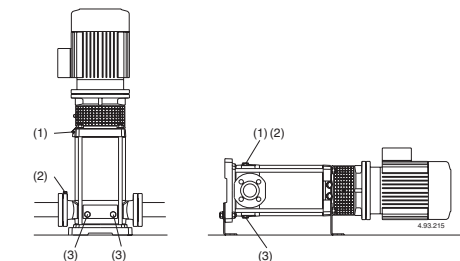

Fig.4d (1) Filling and air vent
(2) Suction side air vent
(3) Draining
When the liquid level on the suction side is above the pump (inflow under positive suction head, **fig. 3B**), fill the pump by slowly and completely opening the inflow gate valve while keeping the delivery gate valve and air vent holes (1), (2) (**fig.4d**) open to release the air.
Close the air vent holes (1), (2) (**fig.4d**), for MXV-B, MXV(L) 25-32-40-50 e MXV(L)4 25-32-40-50 Tighten the needle screw (14.17) in the drainage plug (14.12) (**fig. 4b**) and close the air vent hole (14.04).